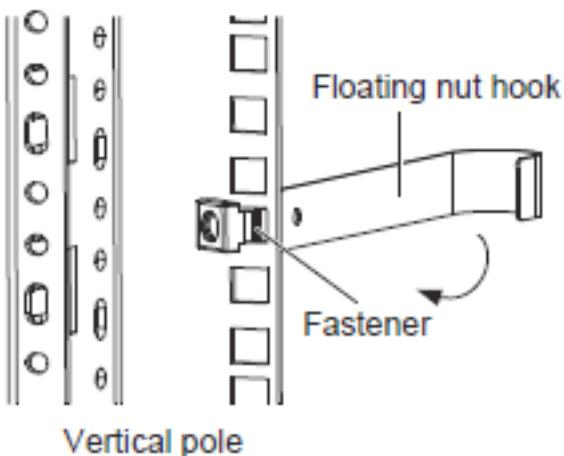

Figure 2-3 Schematic diagram 2 for installing floating nut
2. Lead the floating nut through the square hole. Hitch the other fastener of the floating nut and pull it out to fix the fastener to the square hole completely as shown in Figure 2-3.